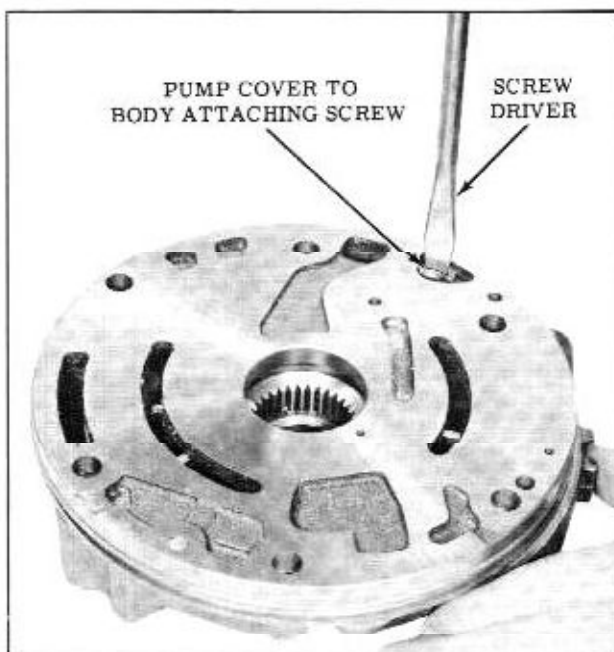

Fig. 3-81 Removing Pump Cover
2. Remove the pump cover by removing one attaching screw. (Fig. 3-81)